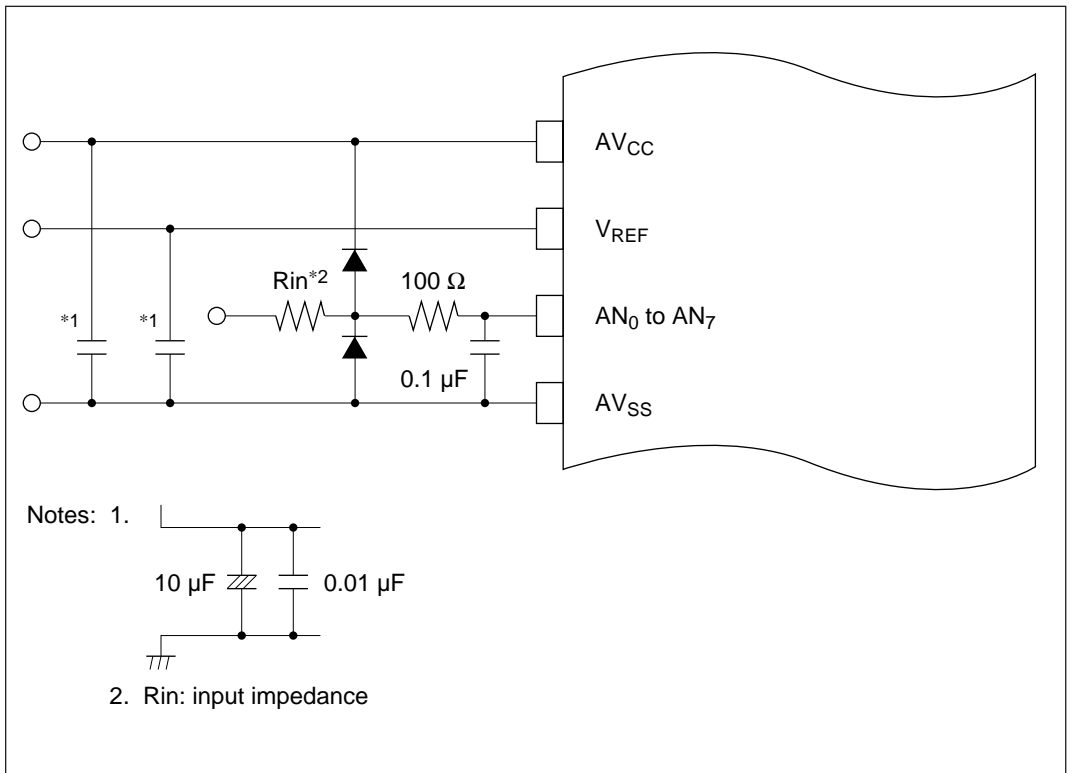

Figure 14-7 Example of Analog Input Protection Circuit
5. Note on Noise: To prevent damage from surges and other abnormal voltages at the analog input pins (AN_0 to AN_7) and analog reference voltage pin (V_{REF}), connect a protection circuit like the one in figure 14-7 between AV_{CC} and AV_{SS} . The bypass capacitors connected to AV_{CC} and V_{REF} and the filter capacitors connected to AN_0 to AN_7 must be connected to AV_{SS} . If filter capacitors like the ones in figure 14-7 are connected, the voltage values input to the analog input pins (AN_0 to AN_7) will be smoothed, which may give rise to error. Error can also occur if A/D conversion is frequently performed in scan mode so that the current that charges and discharges the capacitor in the sample-and-hold circuit of the A/D converter becomes greater than that input to the analog input pins via input impedance R_{in} . The circuit constants should therefore be selected carefully.